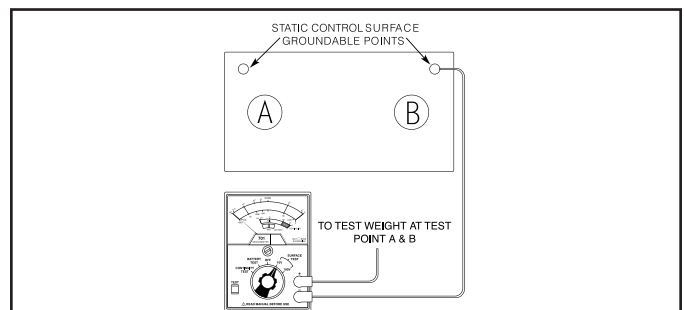

Figure 7. Material evaluation surface to groundable test point
- D. Surface-to-Groundable Point Test: Test samples per Figure 7, using both the 100 volts and 10 volts SURFACE TEST ranges at 50% RH and record the values as (RTS-GP).